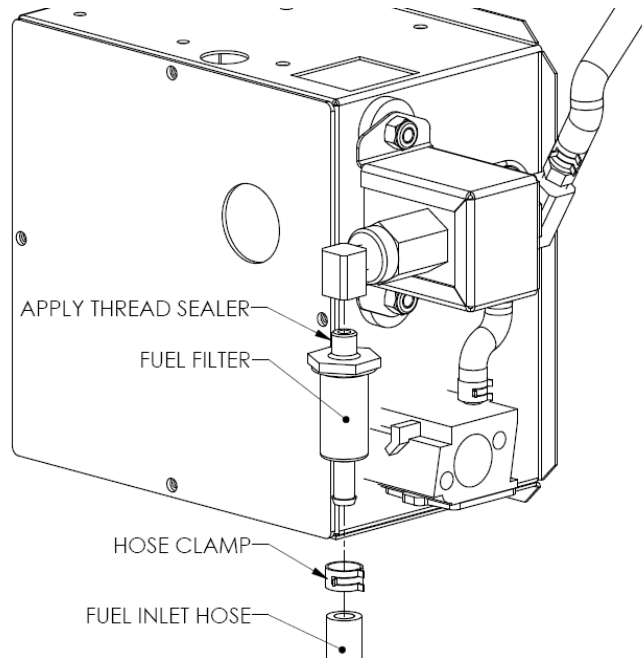

Figure 18: Fuel filter assembly
5. Remove the pin that holds the igniter in the igniter tube and remove the igniter (see Figure 18).
7. Once the igniter is fully inserted into the igniter tube, secure the pin that holds the igniter in place, being careful not to pierce the heat shrink on the igniter. Note that the pin can go in only if the igniter tip is in the horizontal position (see Figure 18).